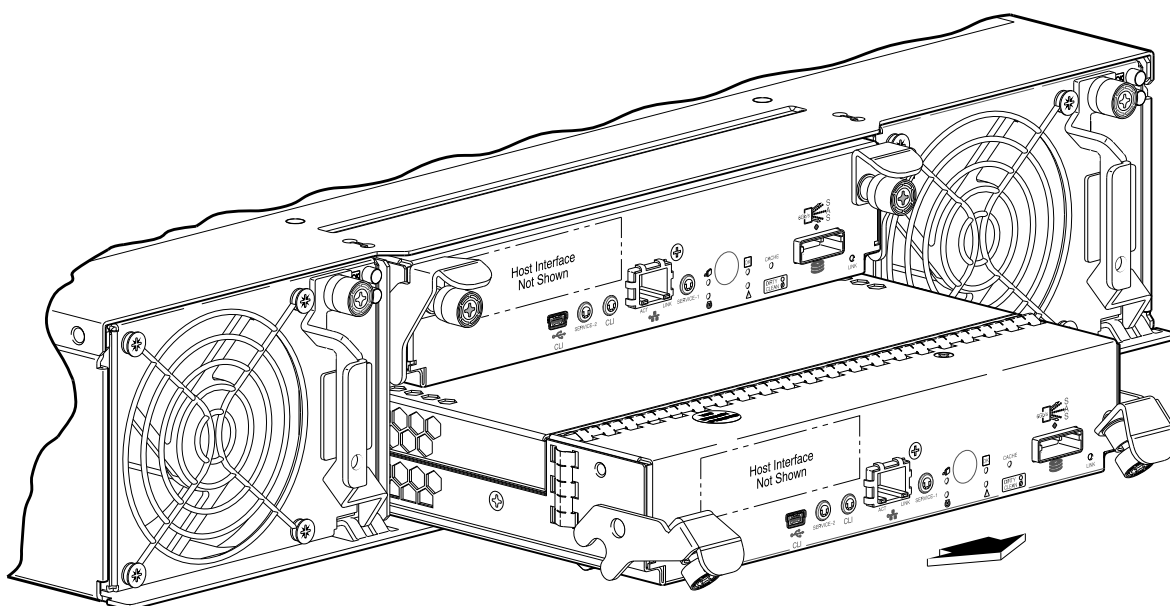
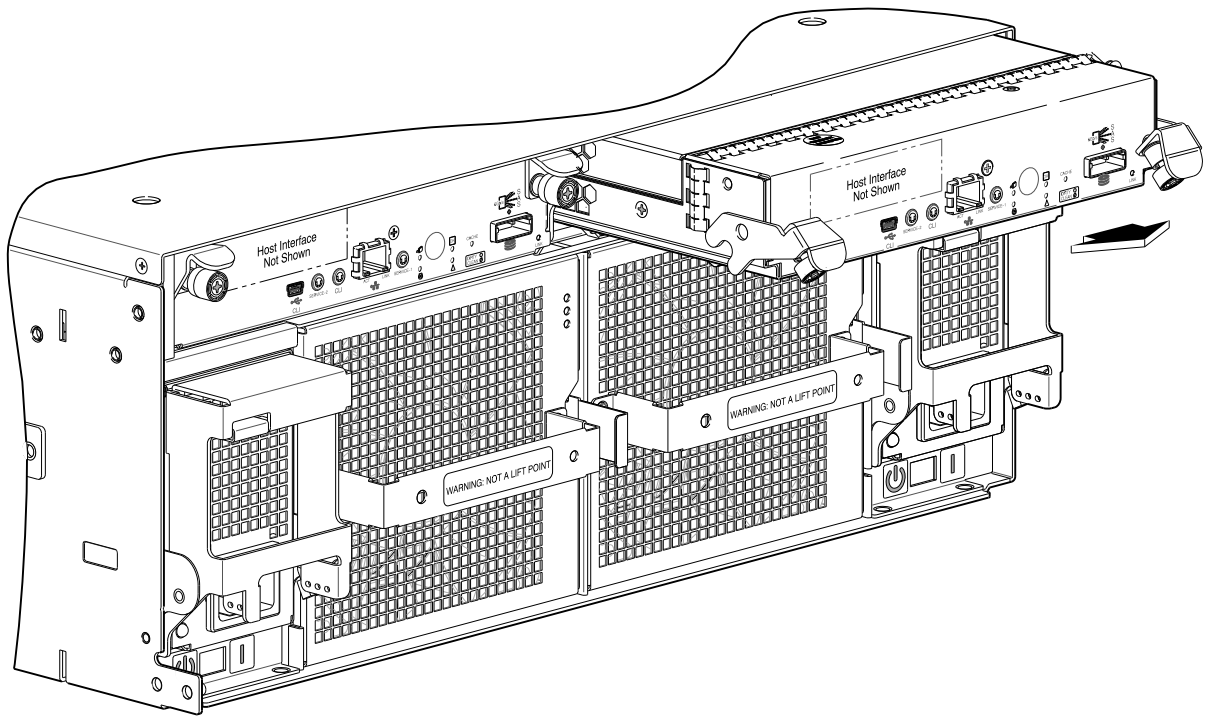

Figure 18 Removing a controller module (2U)
Figure 19 Removing a controller module (4U)
6. Pull the controller module straight out of the enclosure such that the controller module remains level during removal (see Figure 18 and Figure 19).